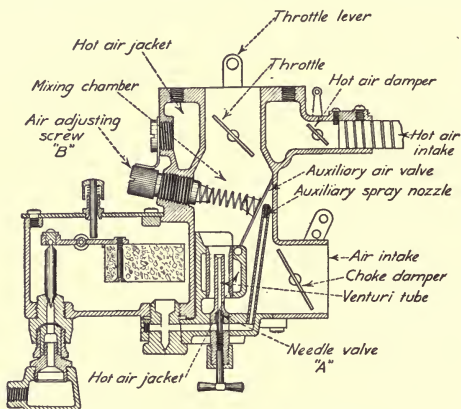

FIG. 108.—The Marvel carburetor.
62. Marvel Carburetor.—The Marvel, shown in Fig. 108, is of the double nozzle type, the second nozzle coming into action at high speeds. At low speeds all the air is drawn through the venturi tube, where it takes up gasoline from the primary nozzle. At high speeds after the air has passed the choke damper, it divides, part of it going through the venturi tube around the low speed spray nozzle, and the remainder passing to one side and opening the auxiliary valve against the pressure of its spring. Near the top of the auxiliary air valve is the secondary or high speed spray nozzle.